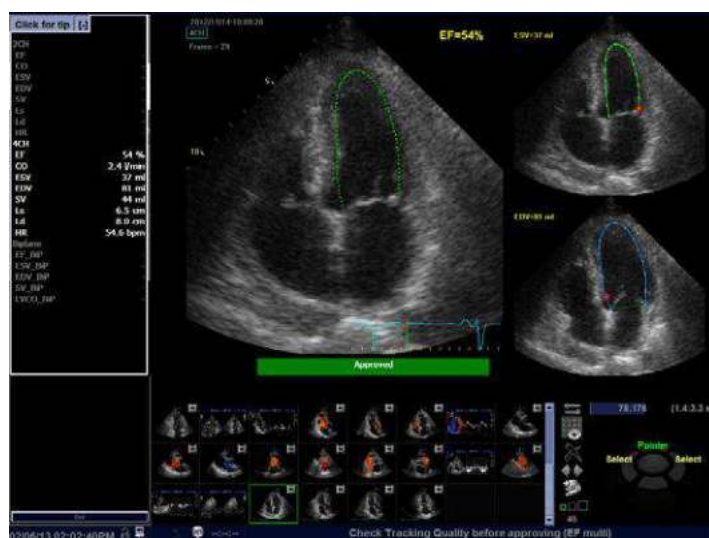

Figure 13-116. AutoEF Result Multi Screen
When processing is complete the EF results screen is displayed (Figure 13-116 on page 13-251).
**NOTE:** *The bi-plane results (BiP) will only appear on screen (Figure 13-116) after measuring both 2-Ch and 4-Ch views.*
For each of the views, a results screen containing the EF calculation, appears (Figure 13-116 on page 13-251) in a mini-report. The mini-report appears on the left side of the results window.